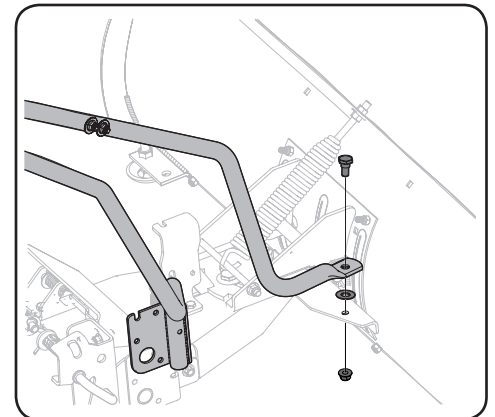

Figure 2-17
1. Attach control tube assembly to pivot plate assembly (689-00632) with shoulder screw (738-0143), Teflon washer (936-0414), and nut (712-04065) found in hardware pack 3 (689-00679). See Figure 2-17.